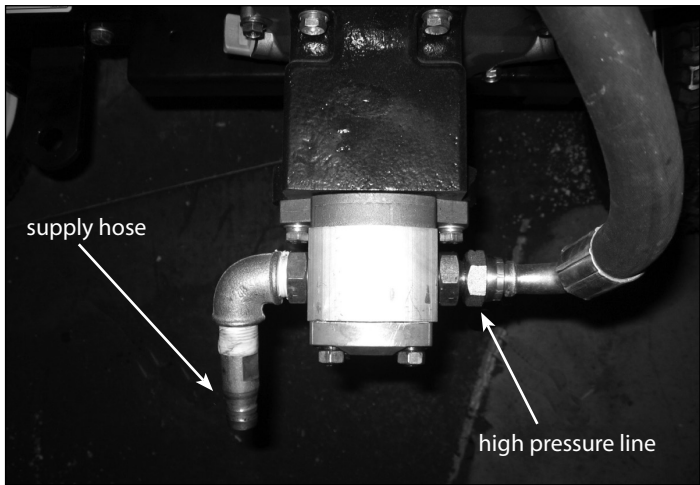

Figure 14
9. **(U.S. Version)** Install high pressure hydraulic hose to pump/engine assembly and hydraulic valve assembly. Swivel end of hose goes on pump. **SEE FIGURE 14.**